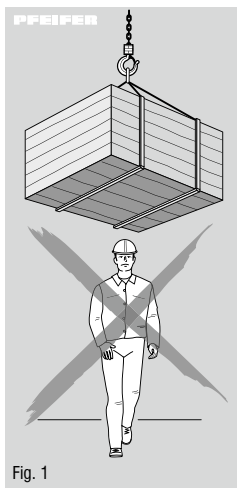

Fig. 1
- Entering the area under a suspended load is forbidden (Fig 1).